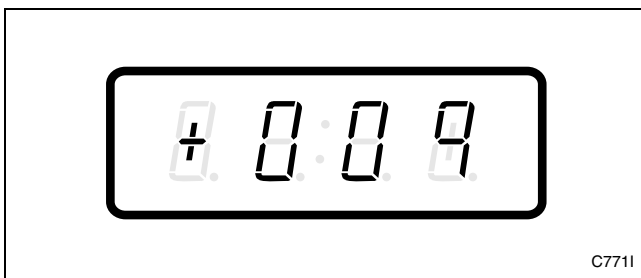

Figure 44
- Press the DELICATES (+) or the COLD (-) keypad to scroll through the programmable options until “+009” appears in the VFD. Refer to *Figure 44*.